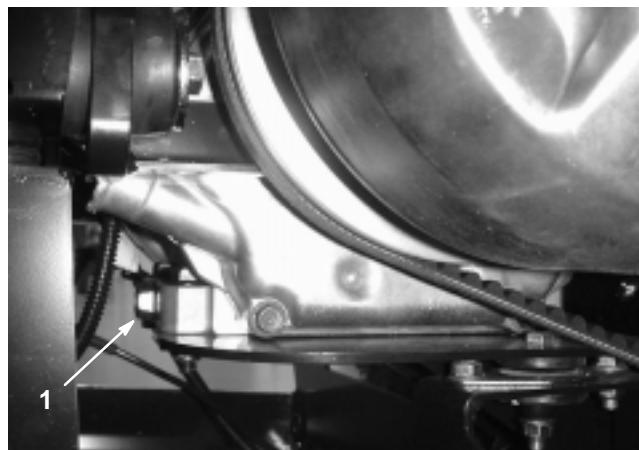

Figure 27
5. Remove the drain plug (Fig. 27) and let the oil flow into a drain pan. When the oil has drained completely, install the drain plug and torque it to 13 ft.-lb. (17.6 N·m).